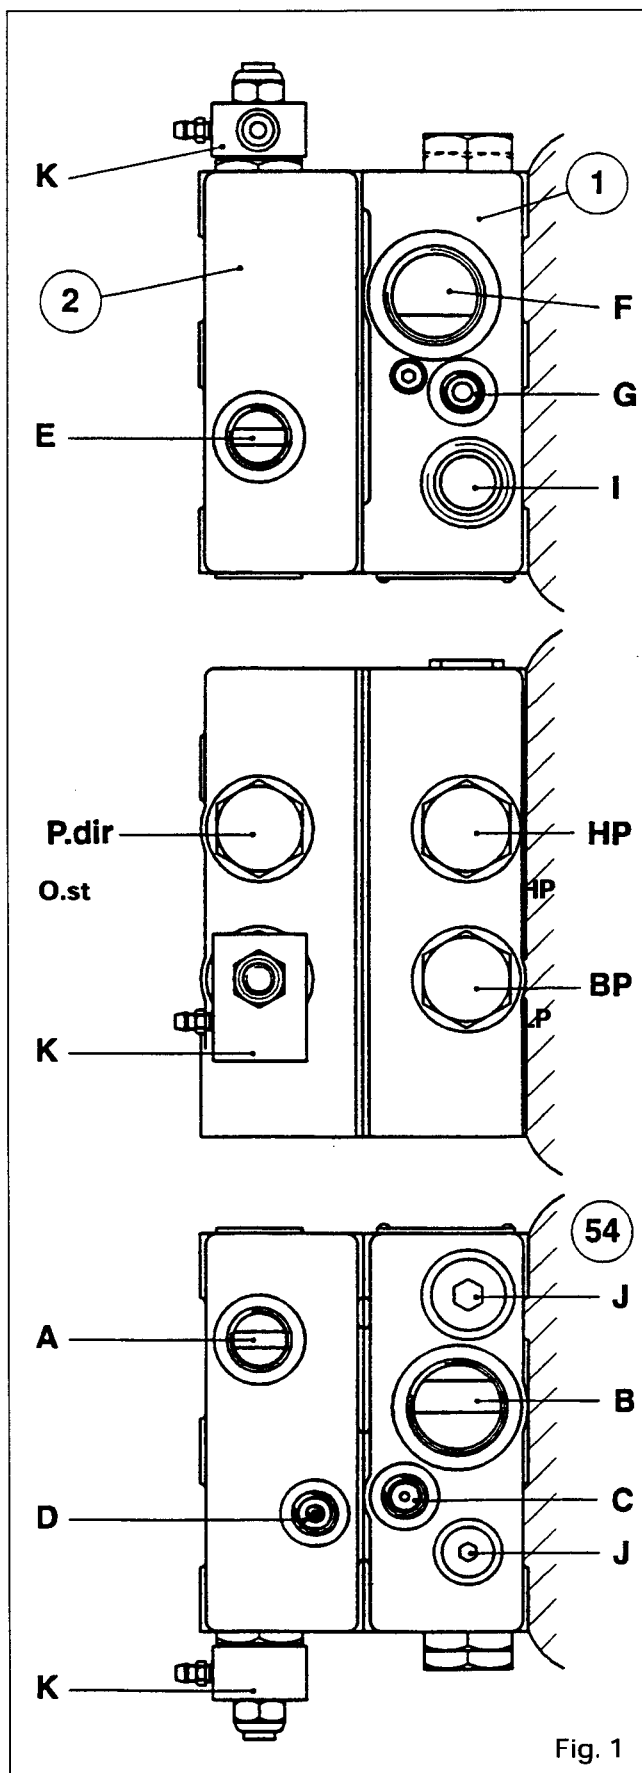

Fig. 1
The inner unit **(1)** (Fig. 1) ensures priority to the 17-bar circuits and the lift control valve mounted on the auxiliary spool valve assembly.
A . Identification of ports (Figures 1 and 2)
Note: As the hydraulic unit is fitted on the cover (54), high-pressure port "B" of the inner unit (Fig. 1) communicates directly with the output of the variable-displacement pump.